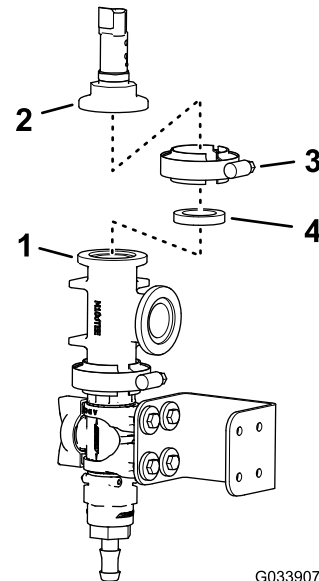

Figure 14
6. Align the flange of the pressure transducer with the flange of the T-fitting as shown in Figure 14.
7. Assemble the pressure transducer to the T-fitting with a gasket and flange clamp, and tighten the clamp by hand (Figure 14).